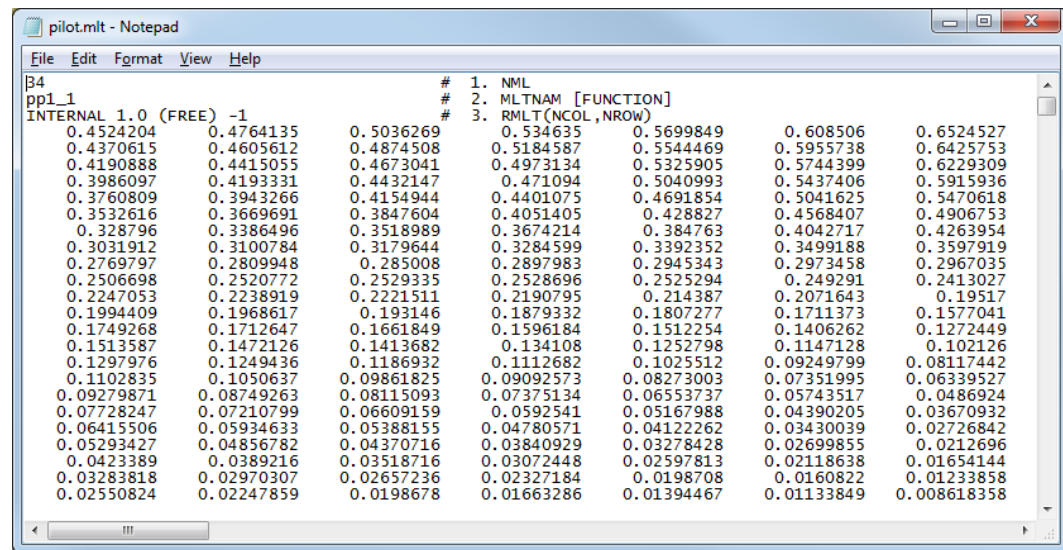

Figure 18 MLT package file
- Using a text editor, open the “pilot.mlt” file (Figure 18).